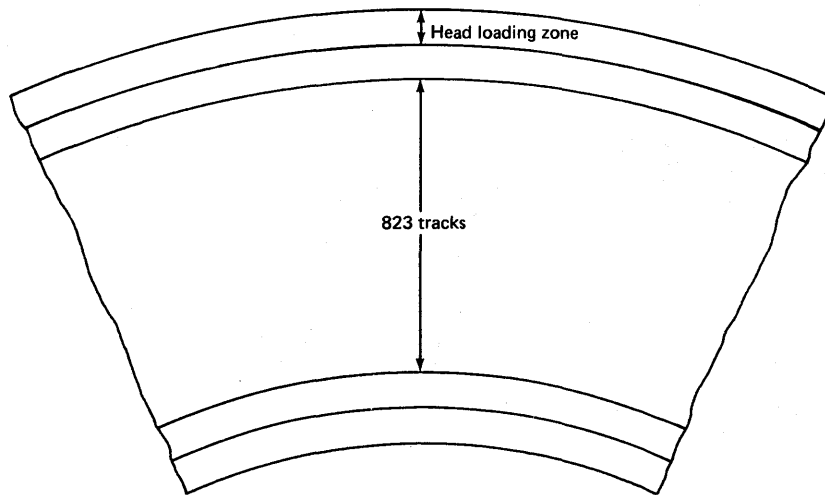

Figure 41. Head loading zone
8. Refer now to figure 41. The surface shown has space allocated for things other than data. The outer edge of the disk has space reserved for the heads to land, or more properly, to load, since they do not physically touch the surface. This space is wide enough for the pad which surrounds the actual data head. The head pad is aerodynamically designed to fly above the surface on the thin film of air which is developed by the rotating surface. The pad must be fully over the surface to ensure that enough of the aerodynamic surface is available to safely fly the head. Since the head pad is quite large, it prevents this area on the outer edge of the disk from being used for recording.